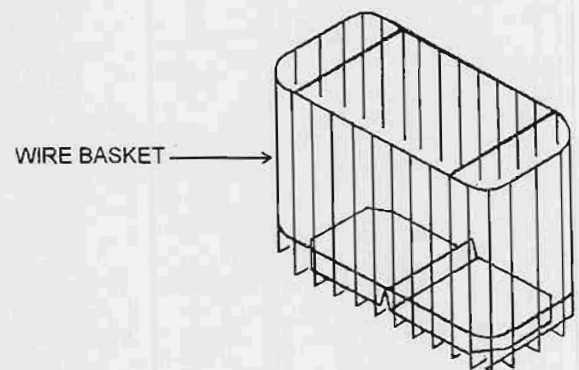

Figure 1-4. Wire basket.
(1) *Wire basket (fig 1-4).* A wire basket is provided to facilitate loading and unloading of the storage compartment.